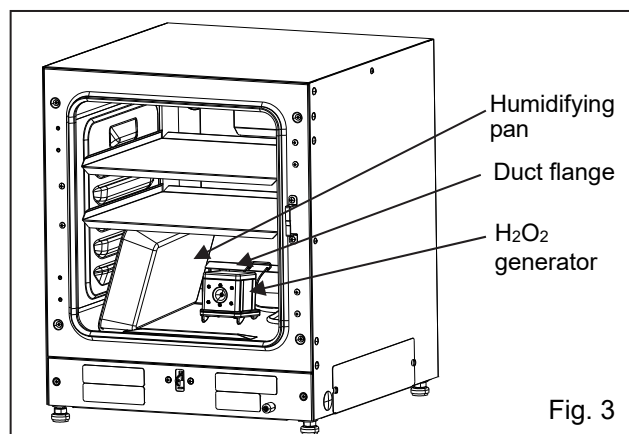

Fig. 3
4. On the Date & Time screen, move the cursor to Date [Fig. 3] using the up/down keys ($\Delta \nabla$), and press the enter key (ENTER).
4. On the Date & Time screen, move the cursor to Time [Fig. 3] using the up/down keys ($\Delta \nabla$), and press the enter key (ENTER).
4. With the cursor in the Keypad Click Set screen on Keypad Click Set [Fig. 3], press the enter key (ENTER).
<Left side of the display> [Fig. 3]
8. Set the humidifying pan removed in step 1 by leaning it against the flange of the duct. Set the trays on the first and third tray catches from the top (Fig. 3).